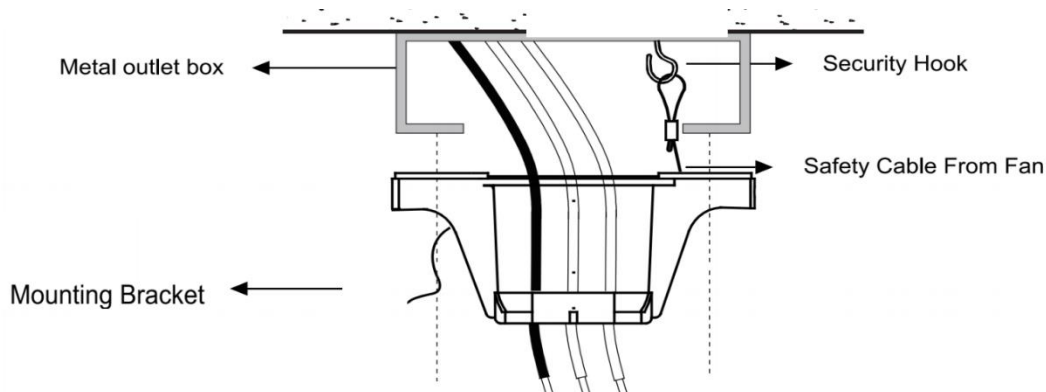

Fig. 14
10. Pull the metal safety cable on the security hook, tight the safety cable. (Fig. 14)